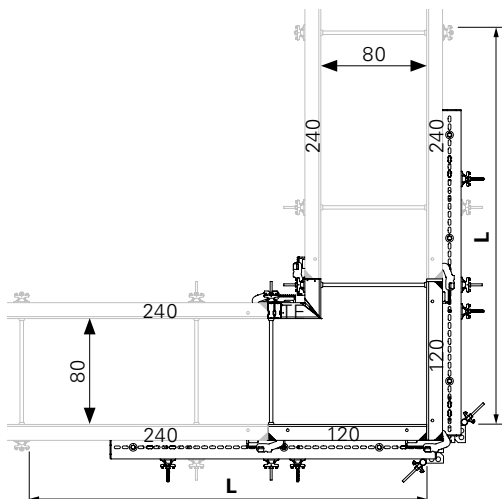

Fig. A7.06
- 3 x Alignment Coupler BFD (20) for a length L of 3.0 m per panel joint
- Universal Waler 245 (26) with Waler Stop (27) and Tie Yoke (28)
- (Fig. A7.06 + A7.06a)